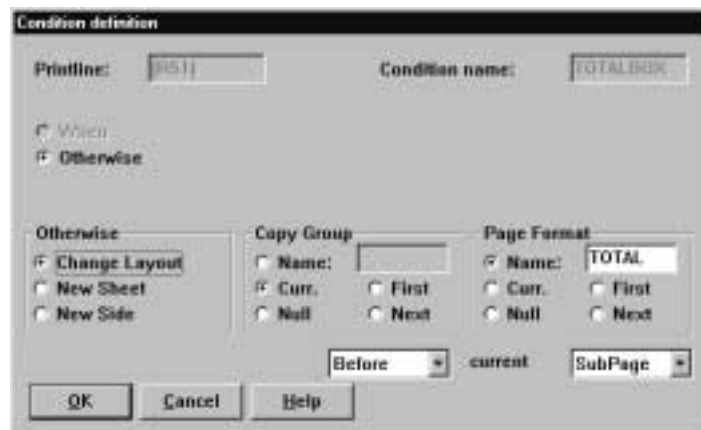

Figure 27. Otherwise condition
11. Click on the **Insert** button again. In this example, there are only two choices (a "Continued" page or a "Total" page). Once the first choice is defined, we can use the **Otherwise** function. Click on the **Otherwise** radio button, and then make the selections so that the **TOTAL** page format will be used. Your display should look like Figure 27.